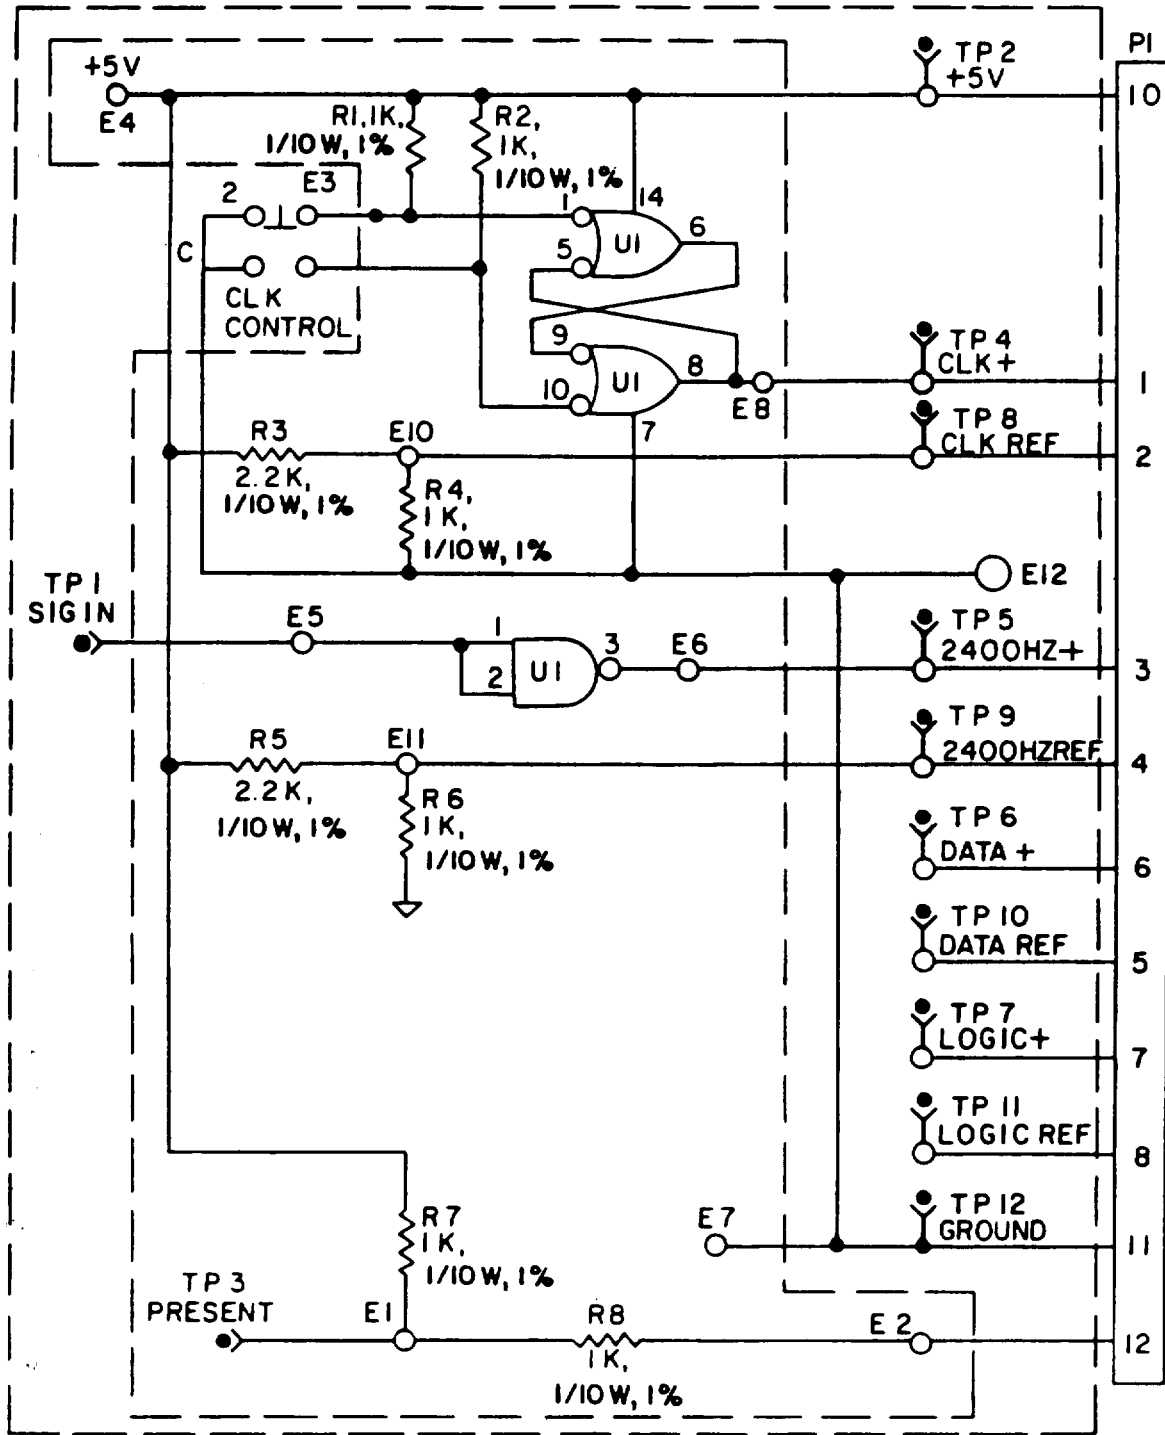

Figure 6-39. KEYSWITCH ASSEMBLY TEST FIXTURE SCHEMATIC DIAGRAM
- In the event of failure in any one of the above steps, see keyswitch assembly test fixture schematic, figure 6-39, and theory of operation in Chapter 3 of this manual and troubleshoot as required.